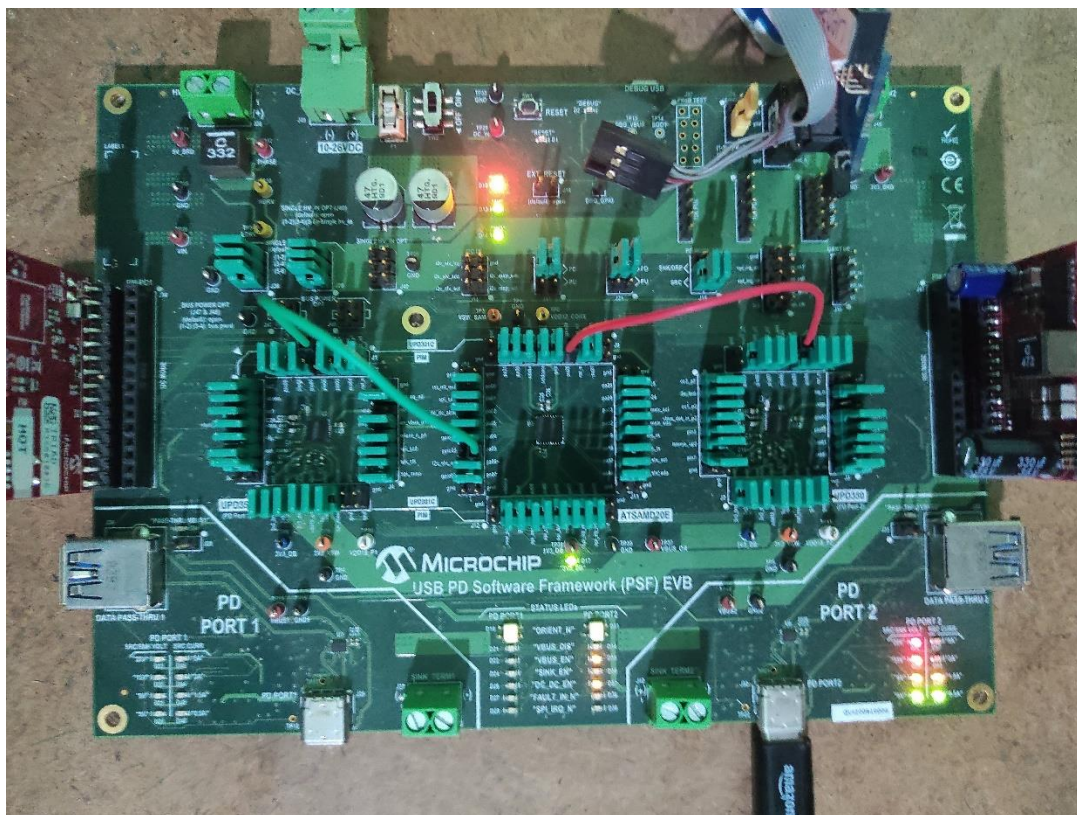

Figure 7.2 VBUS_EN, DC_DC_EN and PDO Status LEDs when attached as Source
- Once an explicit power contract negotiation is in place, the device starts charging. PDO status LEDs will turn on indicating the negotiated voltage as shown in Figure 7.2